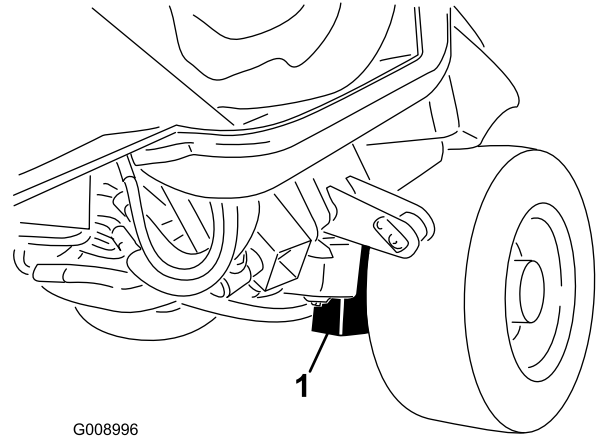

Figure 38
- On the front of the machine on the frame on the inside of each drive tire (Figure 38).